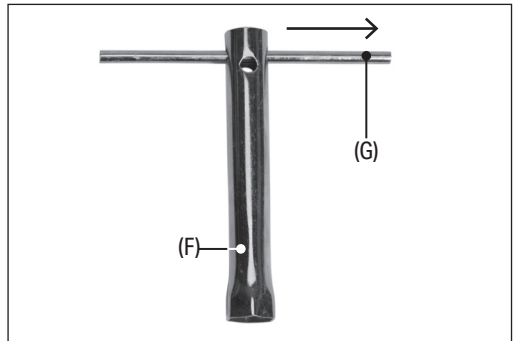

Fig. 32
2. Insert the spark plug wrench handle (G) through the spark plug wrench body (F) and use it to remove the spark plug from the engine (Fig. 32).